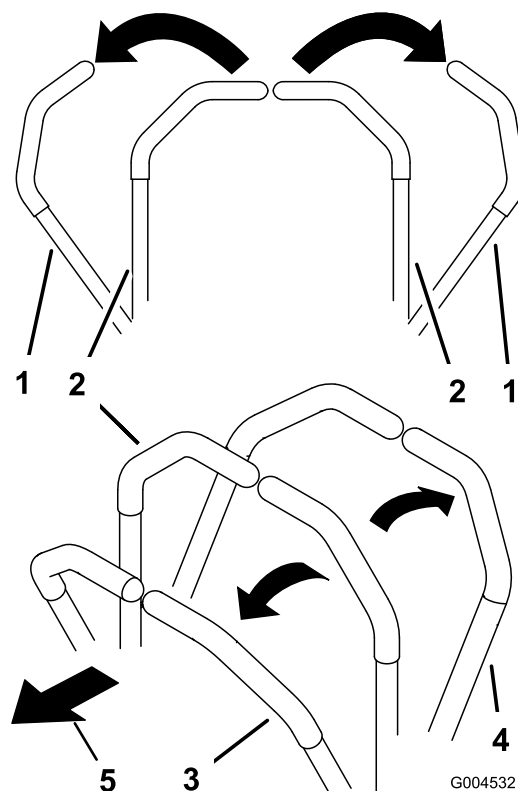

Figure 18
1. Move the motion-control levers (Figure 18) out to the NEUTRAL-LOCK position.
3. To go forward, slowly push the motion-control levers forward (Figure 18).
To go straight, apply equal pressure to both motion-control levers (Figure 18).
To turn, move the motion-control lever toward neutral in the direction you want to turn (Figure 18).
2. To go backward, slowly pull the motion-control levers rearward (Figure 18).
To turn, release pressure on the motion-control lever toward the direction you want to turn (Figure 18).